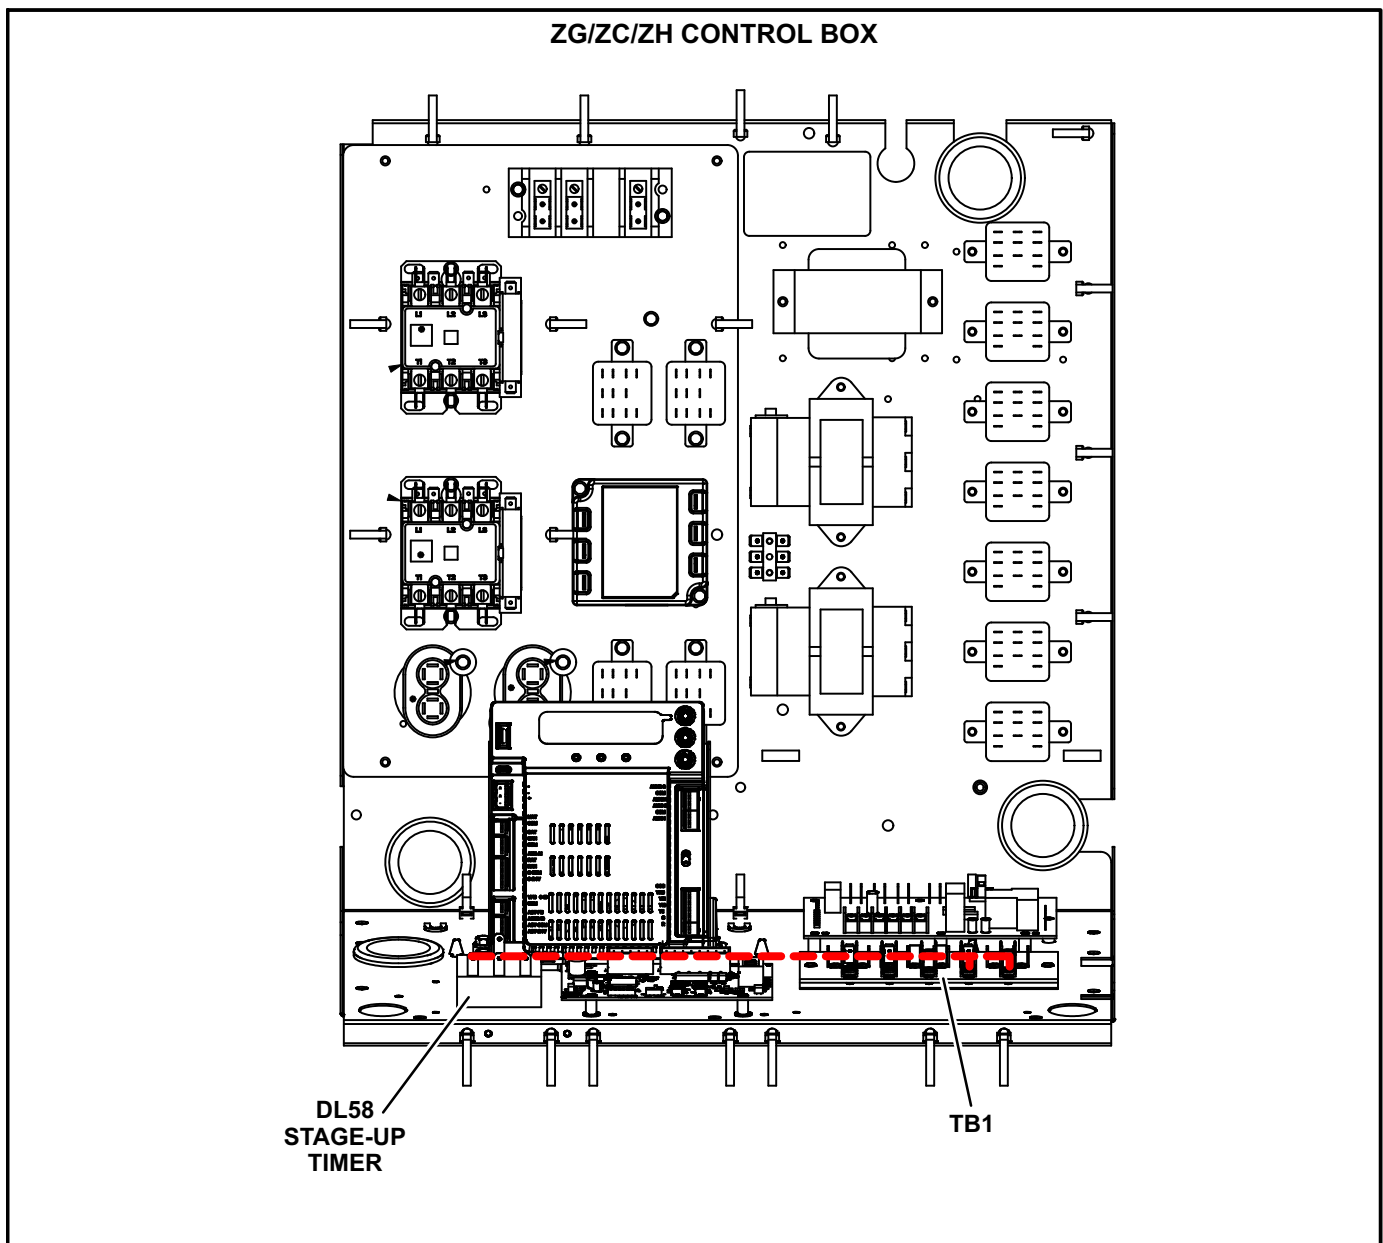

FIGURE 3
- 3- Use the #8 screws, provided in the kit, to install the DL58 timer as shown in figure 3.